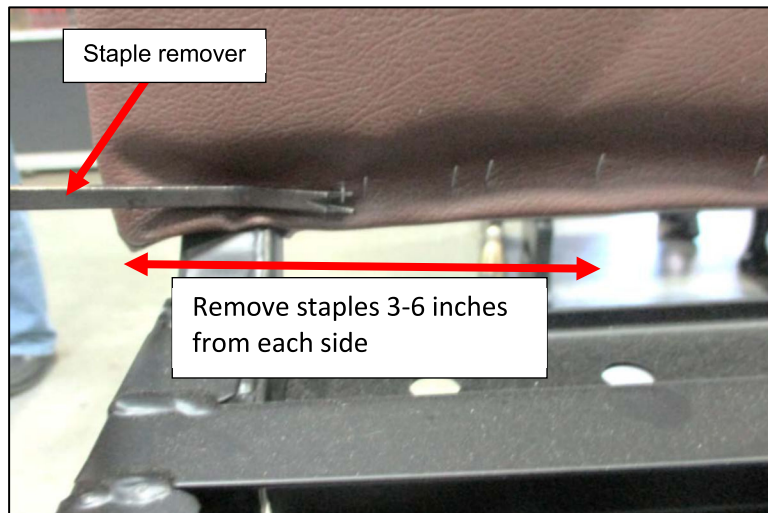

Figure 1: Removing the Vinyl Seat Cover
3. Using a staple remover, remove the staples from the first 3 to 6 inches on both sides of the seat (wall and aisle sides) of the seat. See **Figure 1**.